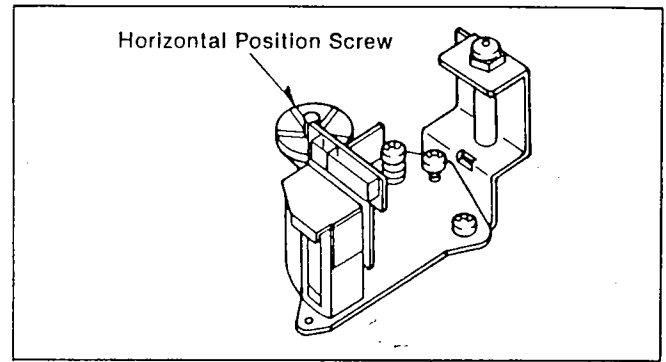
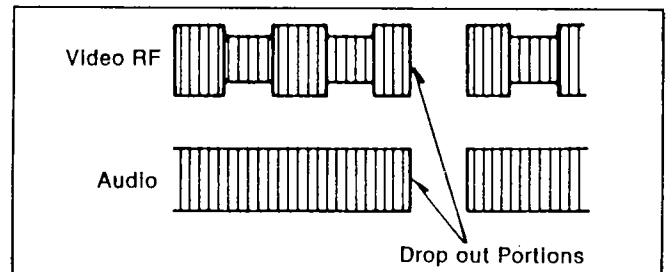

Figure M21
Figure M22 Horizontal Position Adjustment of A/C Head
5. Adjust A/C head horizontal position screw (Figure M21) so that the phase of audio drop out and video RF envelope drop-out becomes the same. (Figure M22)